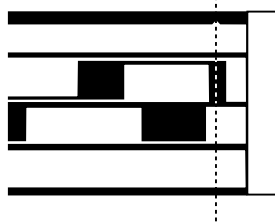

Fig.3
- Check the position of the brush through the confirmation hole (ref. Fig.2), and adjust the contact face of the brush so that it becomes the reference position as shown in Fig.3.